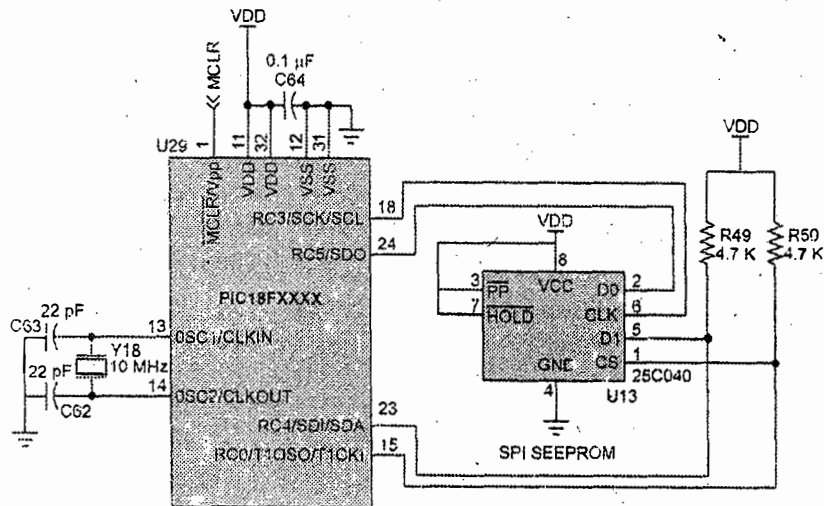

Fig. Q.19.1 EEPROM interface with PIC18FXXXX
- o Four numbers of EEPROM lines are controlled by SPI Enabled drivers. The SPI Lines Chip Select of CS (PORTC.0), serial clock of CLK (PORTC.3), serial input data of MISO (PORTC.4) and serial output data of MOSI (PORTC.5) connected to the SPI based serial EEPROM IC. The EEPROM read & write operations are done in PIC 18F interface by using these CS, CLK, MOSI, MISO SPI lines. As shown in Fig. Q.19.1